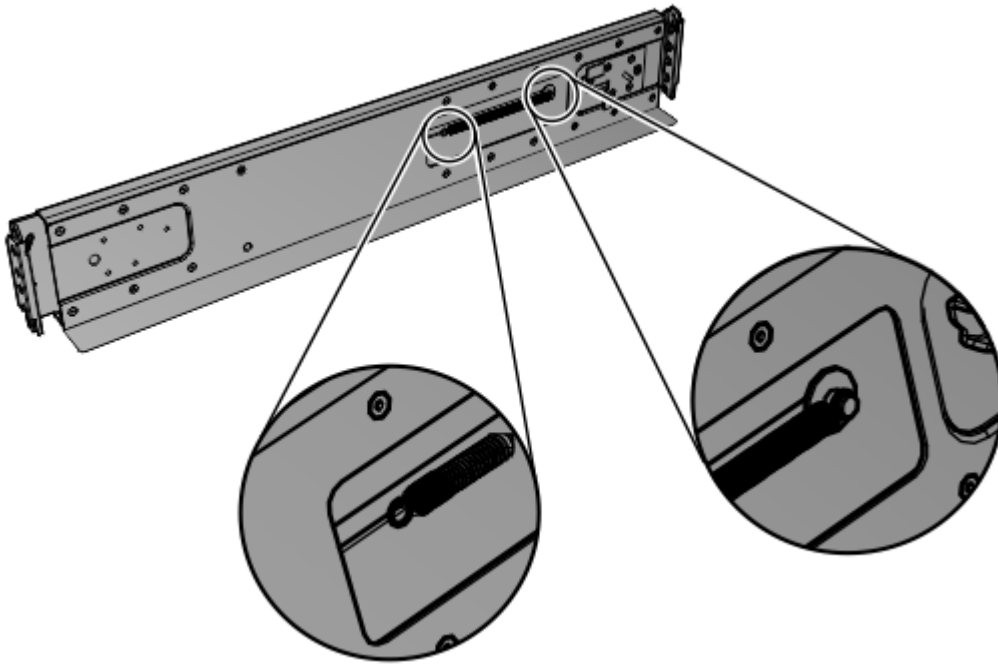

Figure 17. Installing the rail spring
- a) Push one looped end of a spring over one stud on the inside of the rail. (See Figure 17 on page 29.)